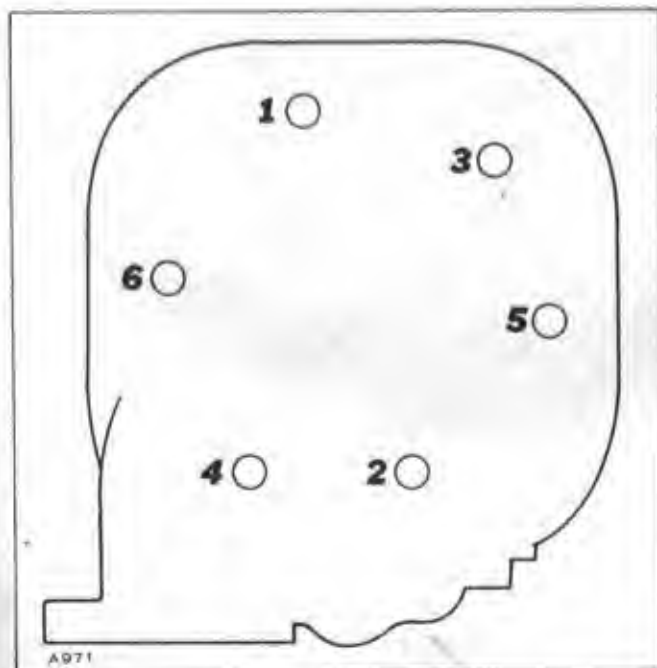

Figure 14. Bolt Tightening Sequence
5. Install the head assembly and gasket to the cylinder block. Tighten the head bolts evenly to 44 to 46 ft. lbs. See Fig. 14 for proper tightening sequence.
**Important:** After the first 50 hours of operation, retighten the cylinder head bolts and check valve clearance. See Fig. 14.